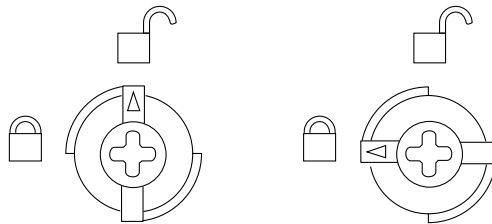

FIGURE 7-3 Unlocking and Locking Quarter-turn Access Slots
3. **Release the power supply from the system chassis by inserting a Phillips No. 1 screwdriver into each quarter-turn access slot and then turning to the unlocked position (FIGURE 7-3).**
Ensure that the arrows in the quarter-turn access slots point to the unlocked position (FIGURE 7-3).
9. Lock the power supply to the system chassis by inserting a Phillips No. 1 screwdriver into each quarter-turn access slot and then turning to the locked position (FIGURE 7-3).